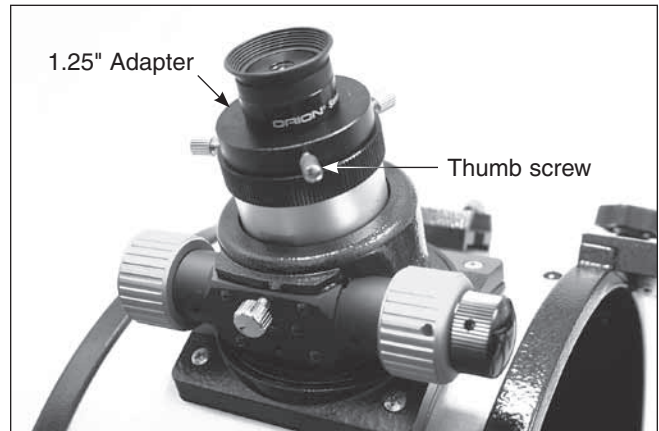

Figure 30. The 1.25" Sirius Plössl eyepiece installed in the focuser.
4. To install the 1.25" Sirius Plössl eyepiece instead of the 2" Deep View eyepiece, keep the 1.25" adapter in the focuser, and make sure the two thumb screws on the 2" adapter are tightened. Now, loosen the thumb screw on the 1.25" adapter, do not loosen the two thumb screws on the 2" adapter. Insert the 1.25" eyepiece into the 1.25" eyepiece adapter, and secure it by retightening the thumb screw on the 1.25" eyepiece adapter (Figure 30). The other eyepiece can be placed in the eyepiece rack until it is needed.